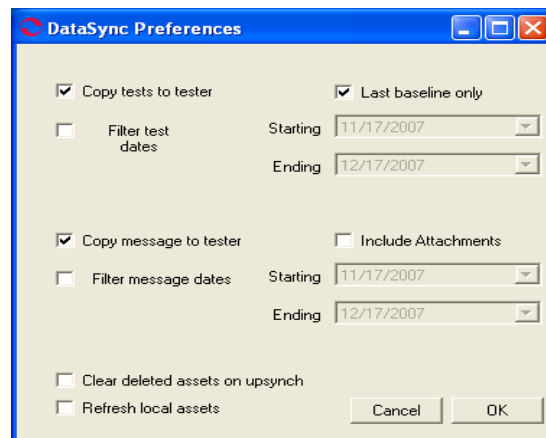

Figure 4-42: DataSync Preferences Window
4. Verify the DataSync preferences by selecting Options, Preferences from the menu. The DataSync Preferences window, Figure 4-42, opens.